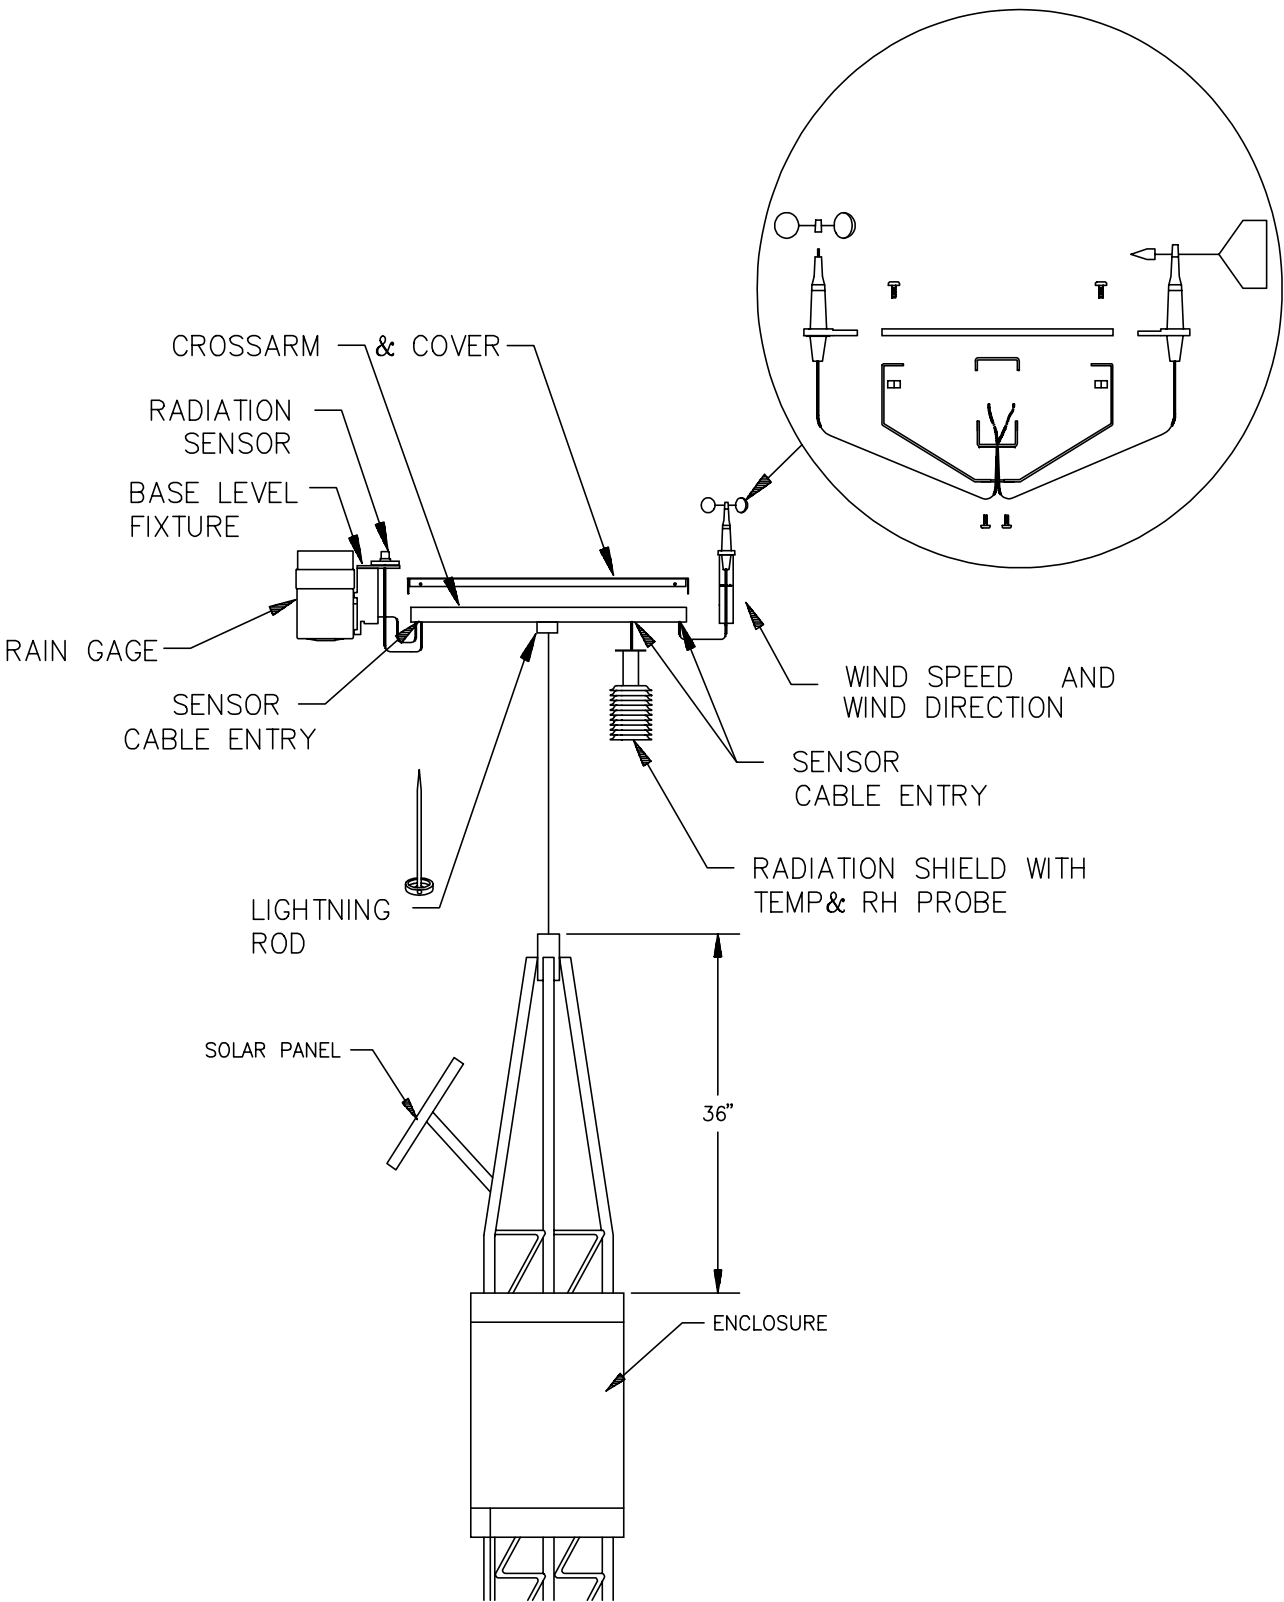
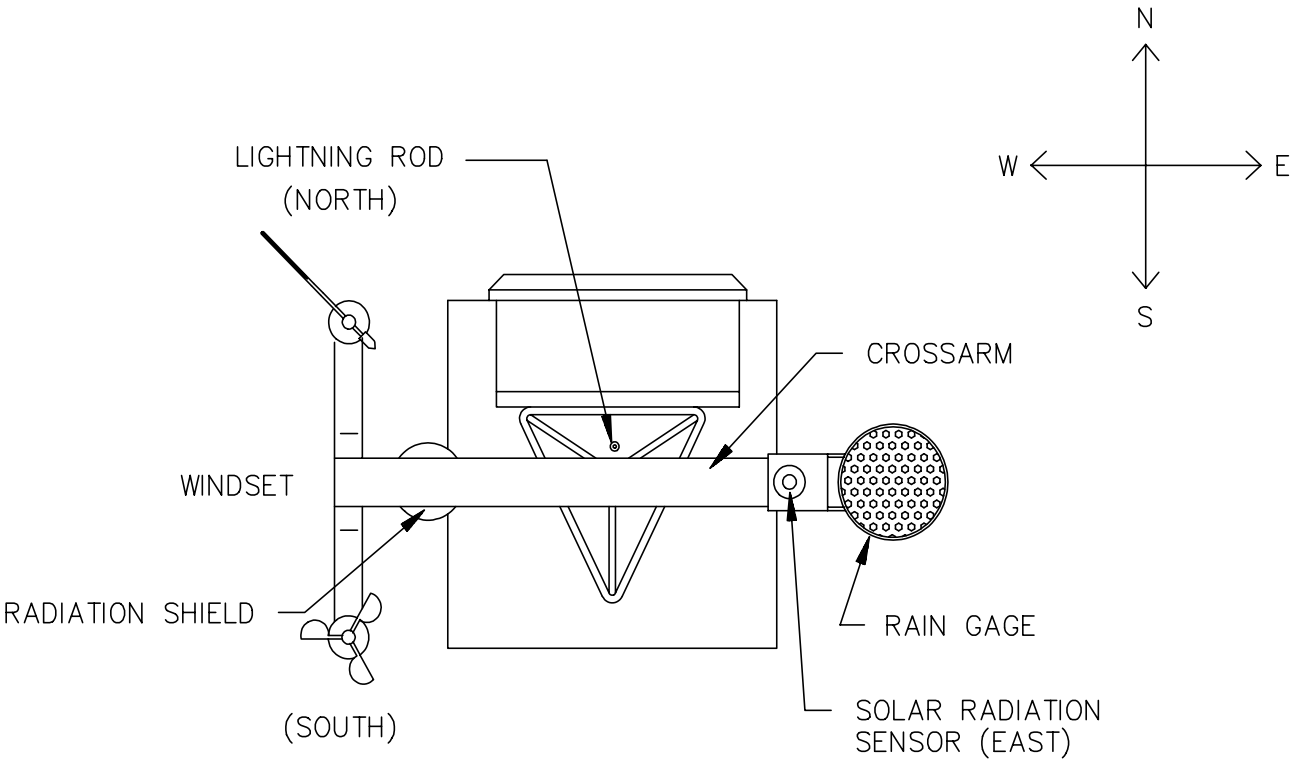

FIGURE 1.3-2. NW8002AC/SP Weather Station Cross Arm Detail
FIGURE 1.4-3. NW8002AC/SP Weather Station (Top View)
Sensors: (Figure 1.3-2)
Step 1 — Remove the crossarm cover and assemble the sensors on the ends of the crossarm (Figure 1.3-2). Note: For proper crossarm orientation refer to (Figure 1.4-3).
Step 5 — Mount the radiation shield into the 1 5/8" diameter hole on the underside of the crossarm. Insert the temperature and Relative Humidity (RH) sensor into the radiation shield. Make sure that the temperature and RH sensor is properly seated into the radiation shield.
NOTE: align the crossarm on the ground east-west. The radiation shield and the wind set should be mounted on the west side. The wind direction sensor mounts on the north side and the wind speed on the south (figures 1.3-2 and 1.4-3). Use a compass for accurate alignment.
Step 11 — Mount the enclosure on the tower approximately 36 inches below the crossarm (Figure 1.3-2).
Figure 1.3-2 shows how sensor lead wires are routed through the crossarm and cover. Route sensor wires through the center hole of the crossarm, down the mast, and into the base of the enclosure.